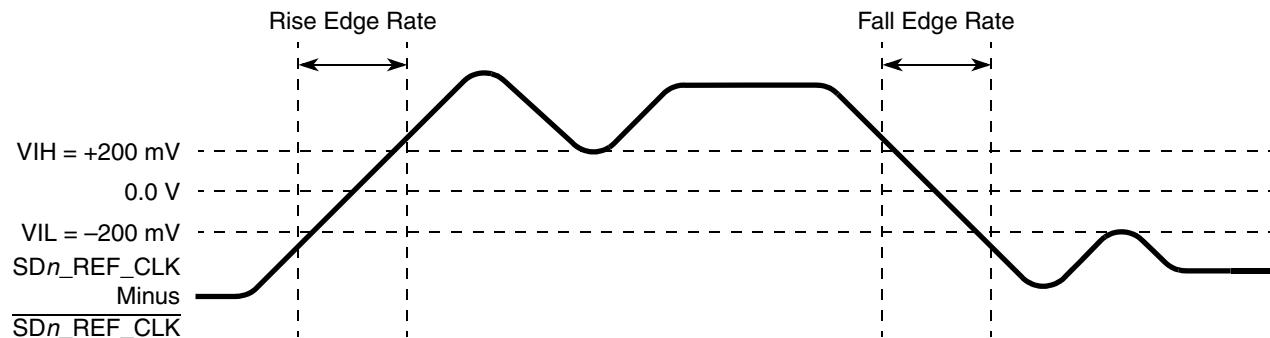

Figure 60. Differential Measurement Points for Rise and Fall Time
The differential waveform is constructed by subtracting the inverting signal ($\overline{SDn_TX}$, for example) from the non-inverting signal (SDn_TX , for example) within a differential pair. There is only one signal trace curve in a differential waveform. The voltage represented in the differential waveform is not referenced to ground. Refer to Figure 60 as an example for differential waveform.
3. Measured from -200 mV to +200 mV on the differential waveform (derived from SDn_REF_CLK minus $\overline{SDn_REF_CLK}$). The signal must be monotonic through the measurement region for rise and fall time. The 400 mV measurement window is centered on the differential zero crossing. See Figure 60.